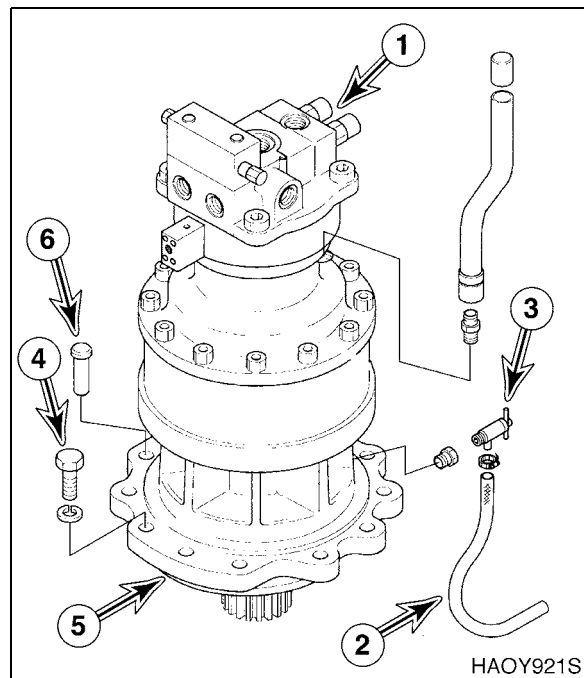

Figure 6
7. Tag and disconnect hoses from swing motor (1, Figure 6). Plug and cap hoses and port to prevent contamination from entering hydraulic system or component.
8. Disconnect tube (2) from drain valve (3)
9. Remove eleven bolts and washers (4, Figure 6) holding swing reduction gearbox (5) to frame.
10. Using a suitable lifting device, sling swing motor (1, Figure 6) and remove swing motor and reduction gearbox (5) as an assembly from unit.
NOTE: A drain valve (3, Figure 6) and tube are on side of gearbox. Be careful not to damage valve or tube.
NOTE: There is one alignment pin (6, Figure 6), on side of reduction gearbox flange.